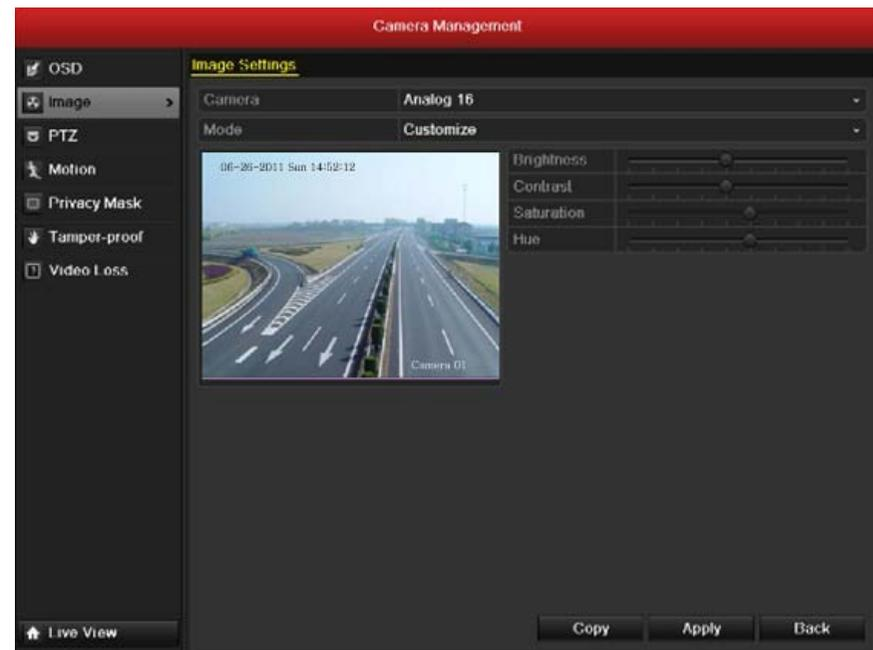

Figure 12.6 Configure Customized Image Settings
4. When the mode is selected to Customize, you can adjust the video parameters, including Brightness, Contrast, Saturation and Hue, as shown in Figure 12.6.